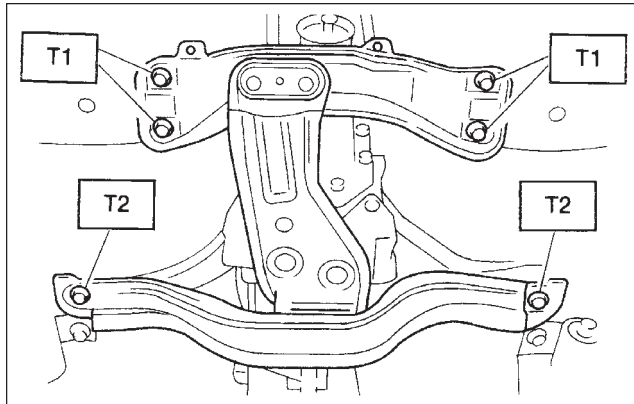
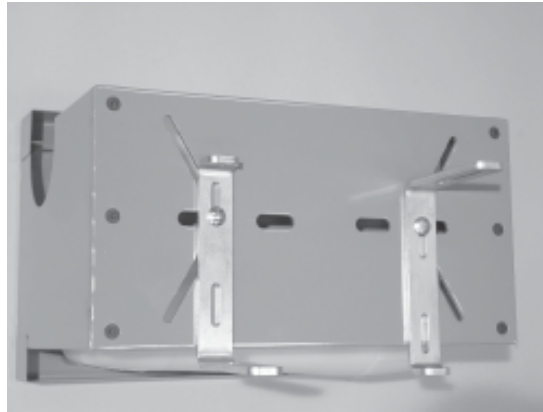

Figure 3
Figure 2
During reinstallation, follow the torque sequence, below (**Figure 2**) and the torque specifications (**Figure 3; next page**).
**Figure 1****Figure 2***continued on next page...***CAUTION: VEHICLE SERVICING PERFORMED BY UNTRAINED PERSONS COULD RESULT IN SERIOUS INJURY TO THOSE PERSONS OR TO OTHERS.**
Bolts must be torqued to the proper specifications (**Figure 3**).
- 2) Secure the mounting adapters to the base with the included 5/16 carriage bolts and nuts (see Figure 2).